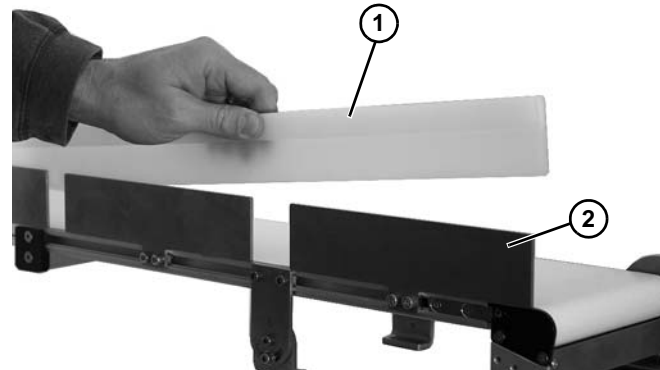

Figure 15
Space support brackets evenly along conveyor as shown in (Figure 15).
3. Install guide (Figure 15, item 1) onto guiding support bracket (Figure 15, item 2).